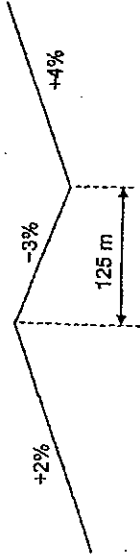

Figure Q4
4. (a) A pair of vertical curves are to connect a series of tangent grades for which the slopes are shown in Figure Q4.